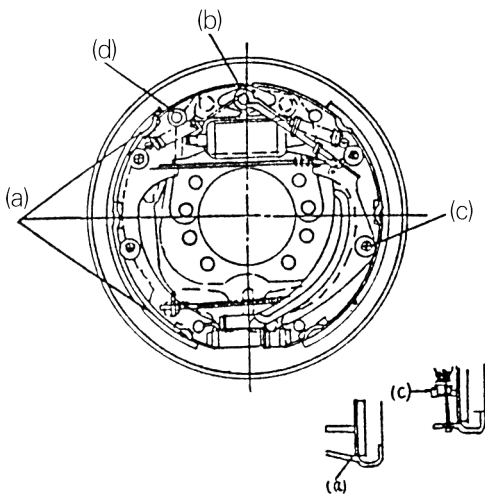
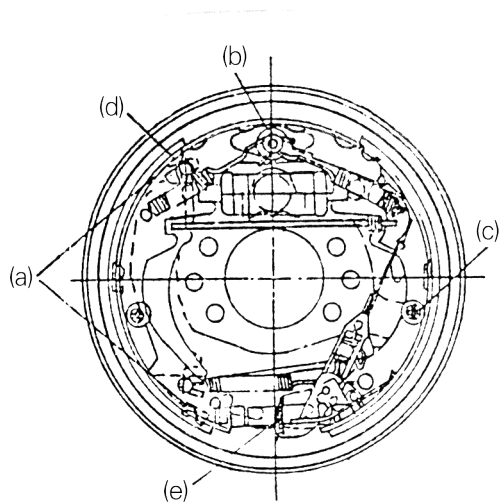

Fig.8-21 Lub. points in brake for 2ton trucks
Fig.8-22 Lub. points in brake for 3, 3.5 and 3.8 ton trucks
(4) Apply No.2 calcium-base grease on the a, b, c, d and e points indicated in Fig.8-21 and Fig.8-22, with care not to contaminate the friction piece with grease.